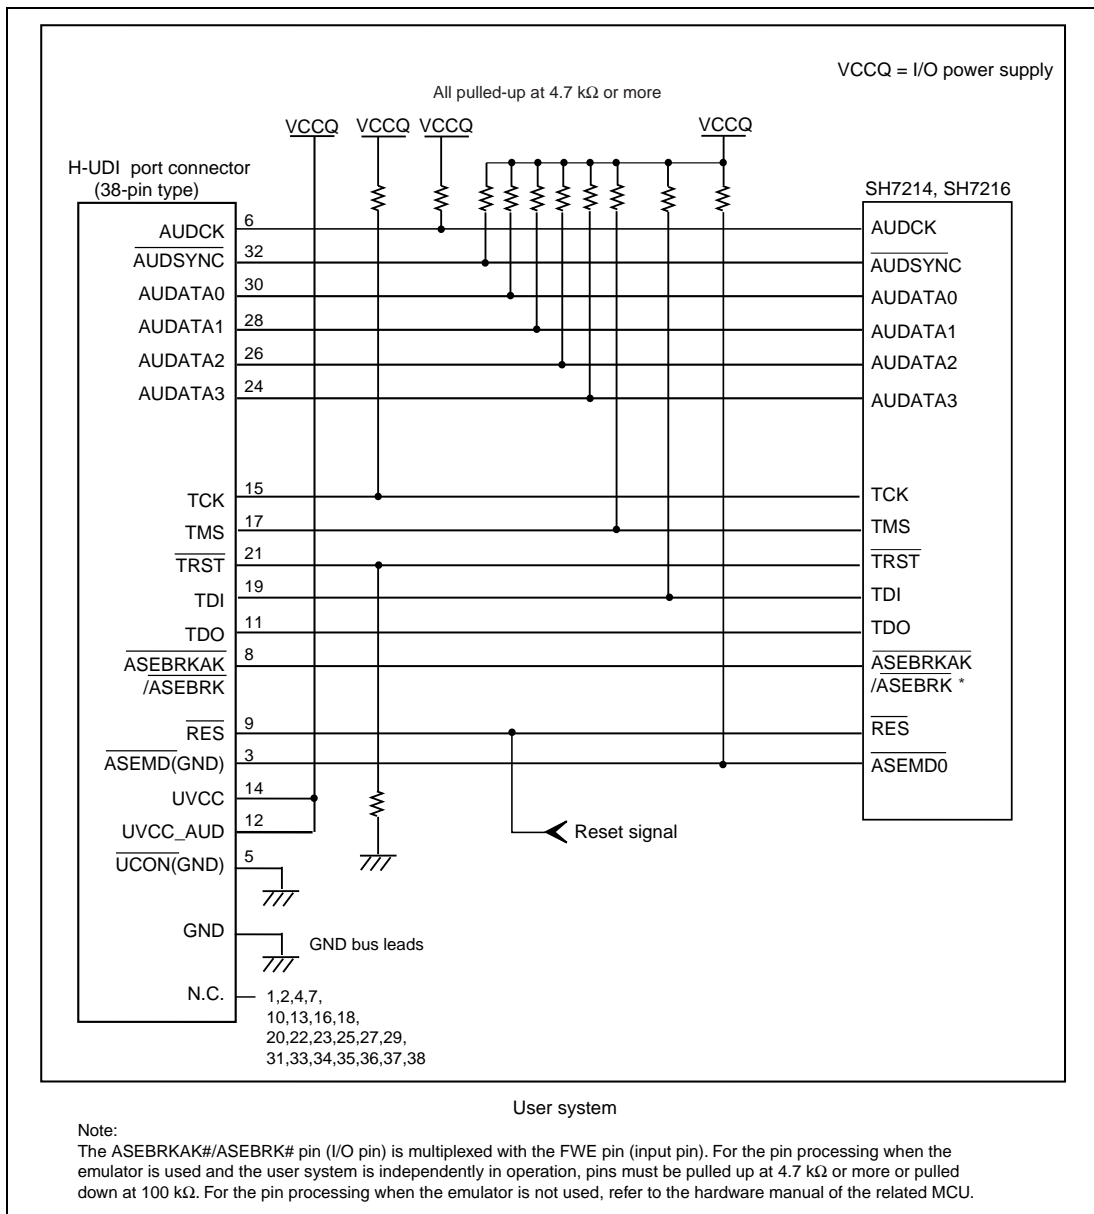

Figure 1.7 Recommended Circuit for Connection between the H-UDI Port Connector and MCU when the Emulator is in Use (38-Pin Type)
Figures 1.7 shows recommended circuits for connection between the H-UDI port connectors (38 pins) and the MCU when the emulator is in use.
- (1) When the emulator is used: ASEMD0# = 0
- (2) When the emulator is not used: ASEMD0# = 1Figures 1.7 shows examples of circuits that allow the ASEMD0# pin to be GND (0) whenever the emulator is connected by using the user system interface cable. When the ASEMD0# pin is changed by switches, etc., ground pin 3. Do not connect this pin to the ASEMD0# pin.
6. The resistance values shown in figures 1.7 is for reference.
When the circuit is connected as shown in figure 1.7, the switches of the emulator are set as SW2 = 1 and SW3 = 1. For details, refer to section 3.8, Setting the DIP Switches, in the SuperH™ Family E10A-USB Emulator User's Manual.